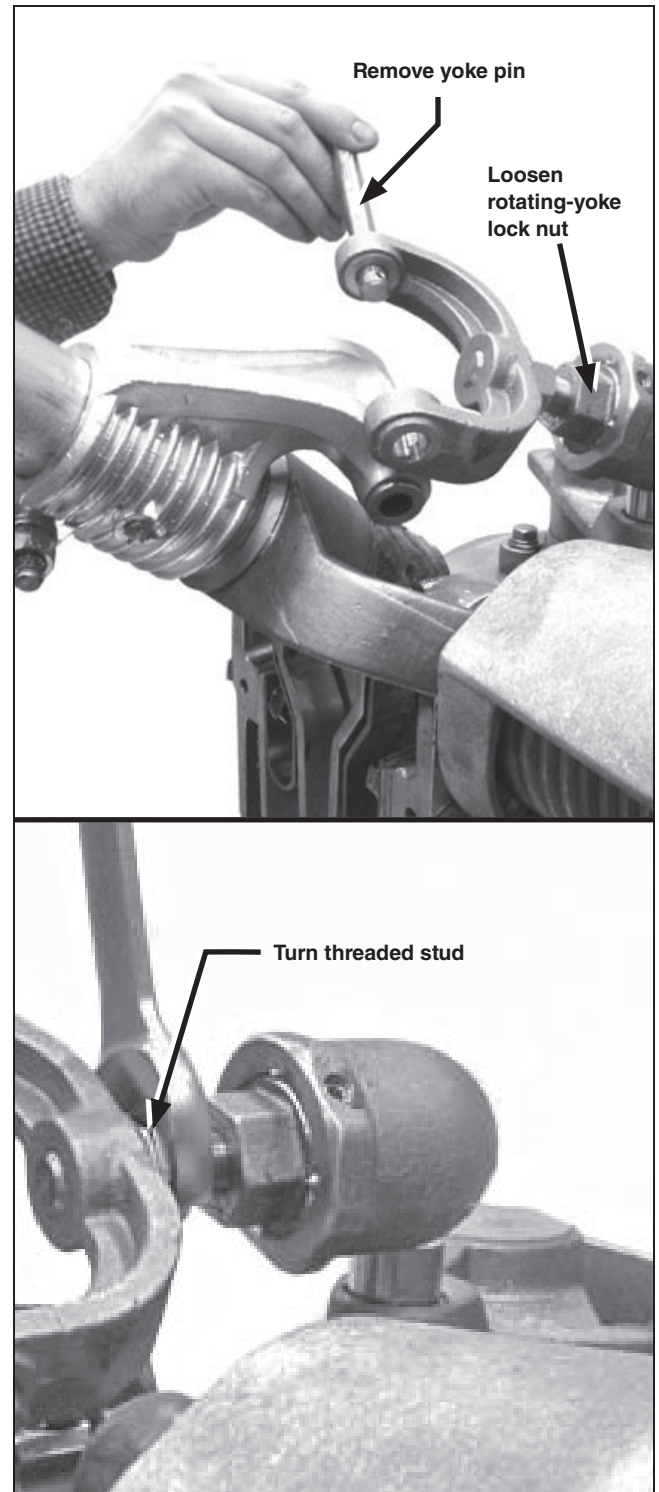

Figure 18. Blade penetration adjustment.
- With the blade in a partially **Open** position, loosen the rotating-yoke lock nut. Figure 18 on page 21.